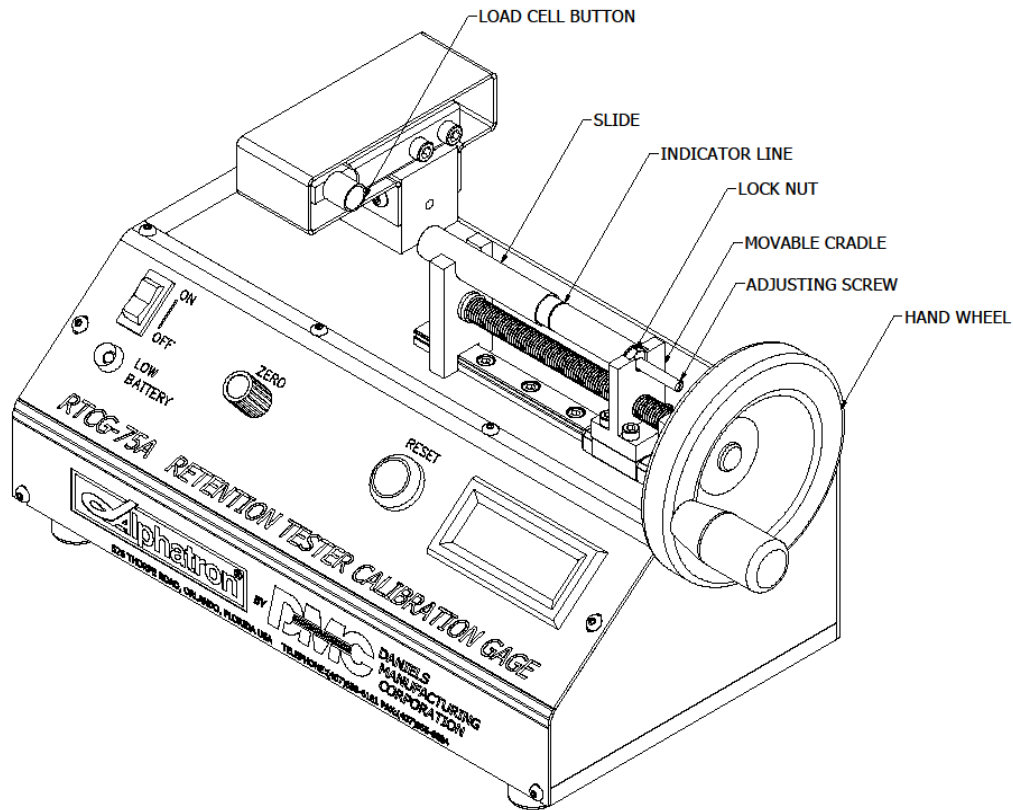

FIGURE 2
OPERATION (Refer to Figure 2)
5. Load the HT tool into the fixture cradles, as shown in Figures 2. For HT250 tools, the end of the tool with the adjustment screw should be in the movable cradle. For HT210, HT240, & HT260 tools, the end of the tool with the socket tester (i.e. silver pin) should be placed into the movable cradle.